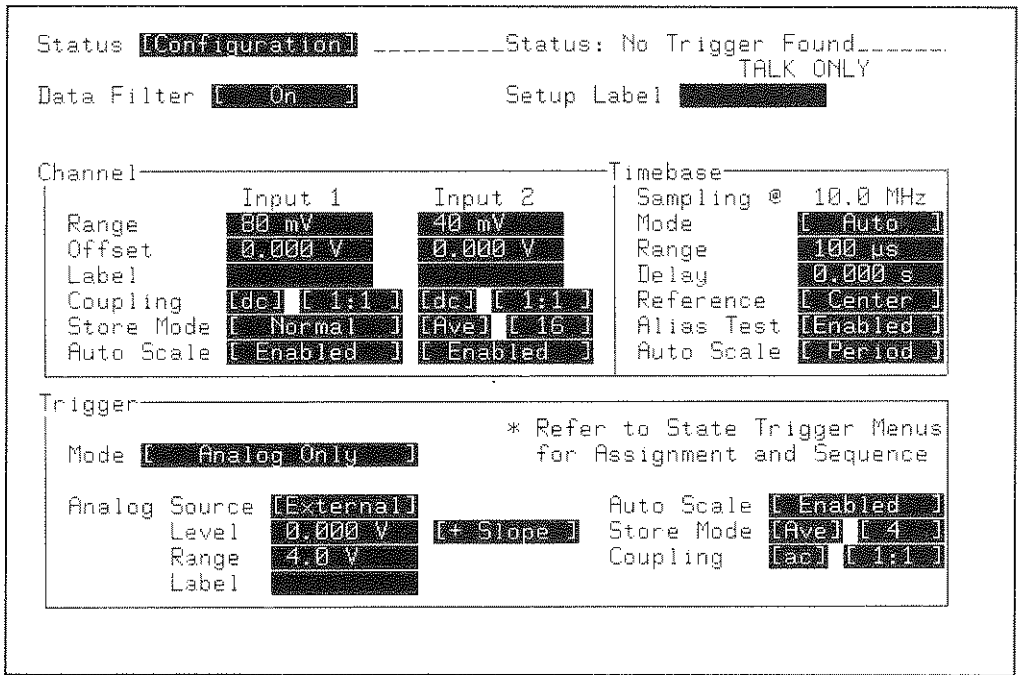

Figure 10-9. 54200A/D Configuration
1. Configure the STATUS Configuration menu as shown in figure 10-9.
1. Configure the STATUS Configuration menu as shown in figure 10-9. Set the 54200A/D display to single-graph with a grid format using the DISPLAY menu.